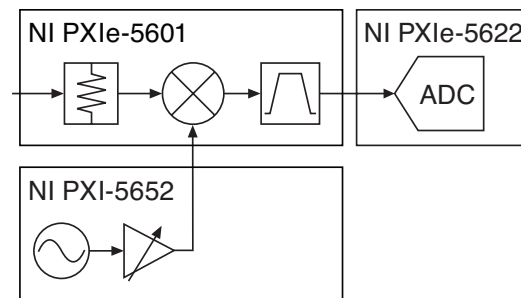

Figure 1. Block Diagram of an NI PXIe-5663
As illustrated in Figure 1, the NI PXIe-5601 RF downconverter module downconverts an RF signal to an intermediate frequency (IF). The local oscillator (LO) source is an NI PXI-565x RF continuous wave (CW) source, which uses a voltage-controlled oscillator (VCO) architecture for fast-frequency tuning speeds. Using a VCO, the NI PXIe-5663 is able to retune and measure signals in 11 ms or less. The NI PXIe-5622, which is used as an IF digitizer, features a 16-bit, 150 MS/s analog-to-digital converter (ADC).